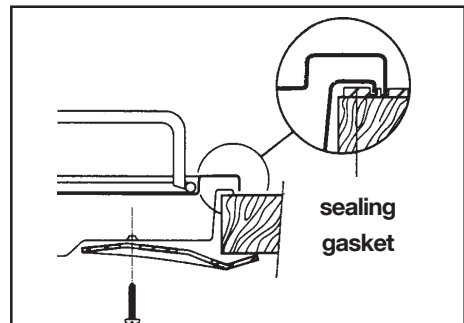

Fig. 10
4. Fix the hob with the relevant screws (Fig. 10). The traction of the screws is able to trace the sealing, any excess of which can then be easily removed.